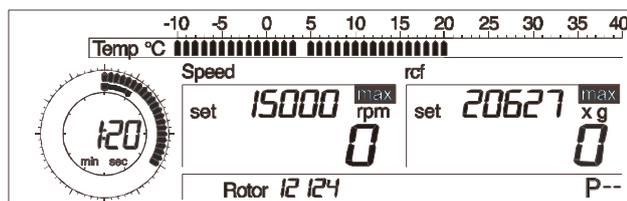

Abb. 5.17:
- If the selected temperature (= set temperature) is below the actual temperature, the set temperature will be represented by a flashing bar on the temperature scale (Fig. 5.17).